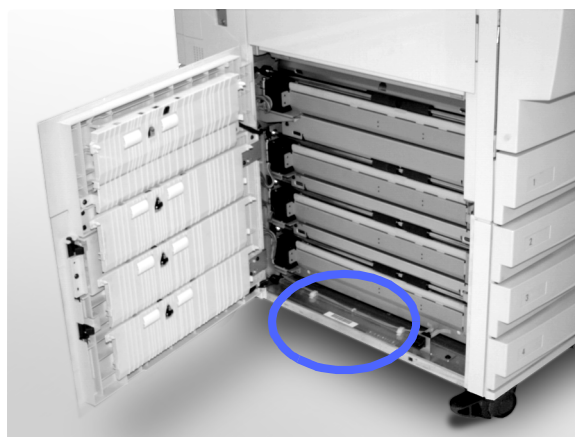

Figure 2: Machine Serial Number location
- Record the Machine Serial Number from the label on the inside lower left cover of the copier/printer (Figure 2). The number may also have been recorded on the inside front cover of this manual.